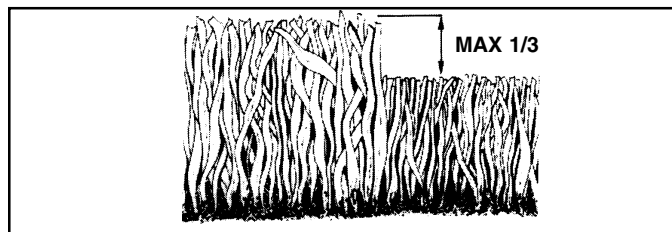

FIG. 13
- For best results, adjust the mower cutting height so that the mower cuts off only the top one-third of the grass blades (See Fig. 13). For extremely heavy mulching, reduce your width of cut on each pass and mow slowly.